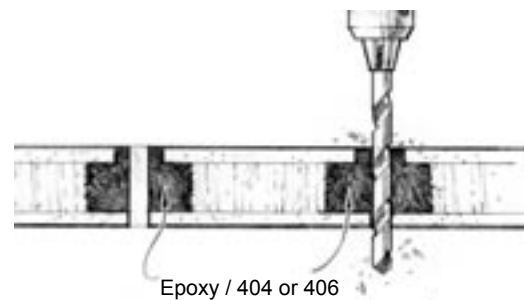

Figure 7-3 Redrill slightly oversized fastener holes through the cured epoxy
4. Temporarily place the hardware item in position and trace the outline of the base and the fastener holes with a pencil. Redrill slightly oversized fastener holes through the cured epoxy (*Figure 7-3*).